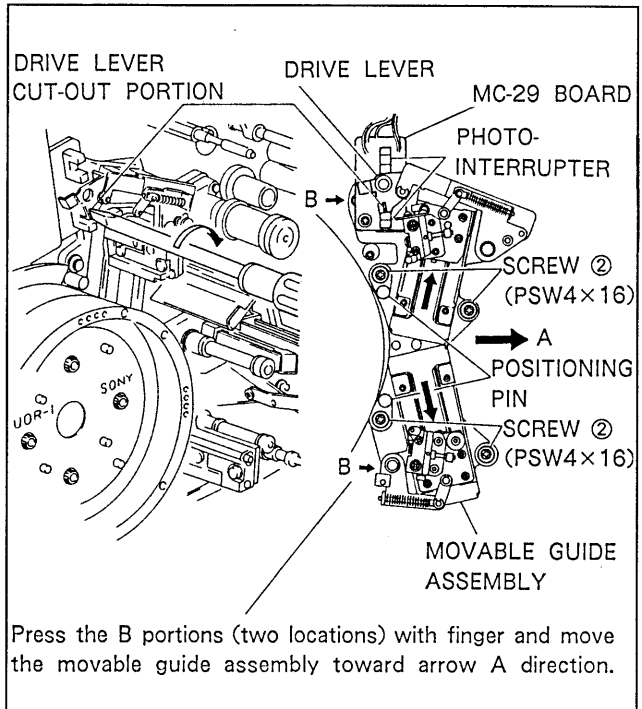

Fig. 6-2-3. Drum Assembly Removal (1)
5. When the slant guide assembly is closed, open the slant guide assembly by inserting the tip of flat-blade screwdriver into the drive lever cut-out portion as shown in Fig. 6-2-3 and rotate the screwdriver shown by the arrow.